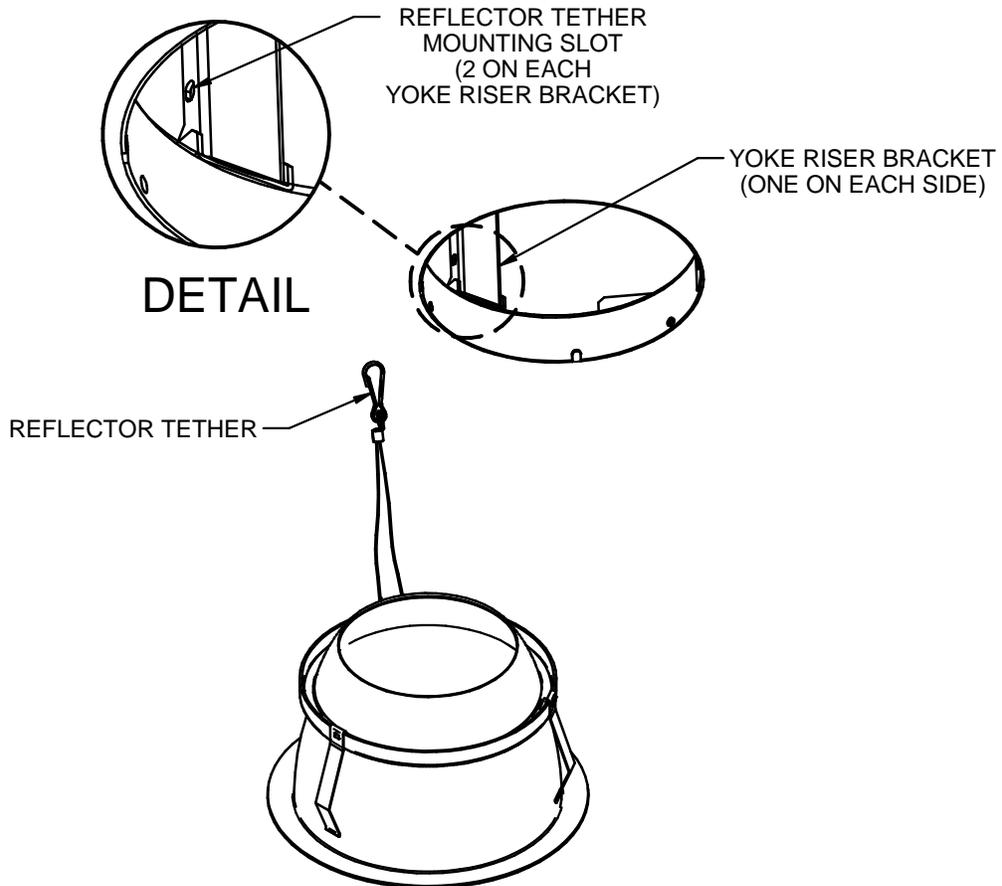

FIG. 4
6. **Important – do not touch lens surface with fingers or wipe with a cloth!** Install the reflector by first attaching the reflector tether to one of the mounting slots in the yoke riser brackets visible through the cutout from below the ceiling. (See **FIG. 4**) Then push the reflector into the fixture until the knee springs draw the reflector into the fixture and flush with the ceiling.